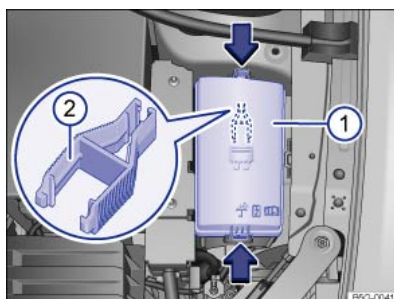

Fig. 210 In the engine compartment: cover ① of fuse box with plastic pliers ②.
- Press the release buttons in the direction of the arrow $\Rightarrow$ Fig. 210 ① to release the fuse box cover.
In some vehicles, there is a pair of plastic pliers $\Rightarrow$ Fig. 210 ② for removing fuses on the inside of the cover of the fuse box in the engine compartment.